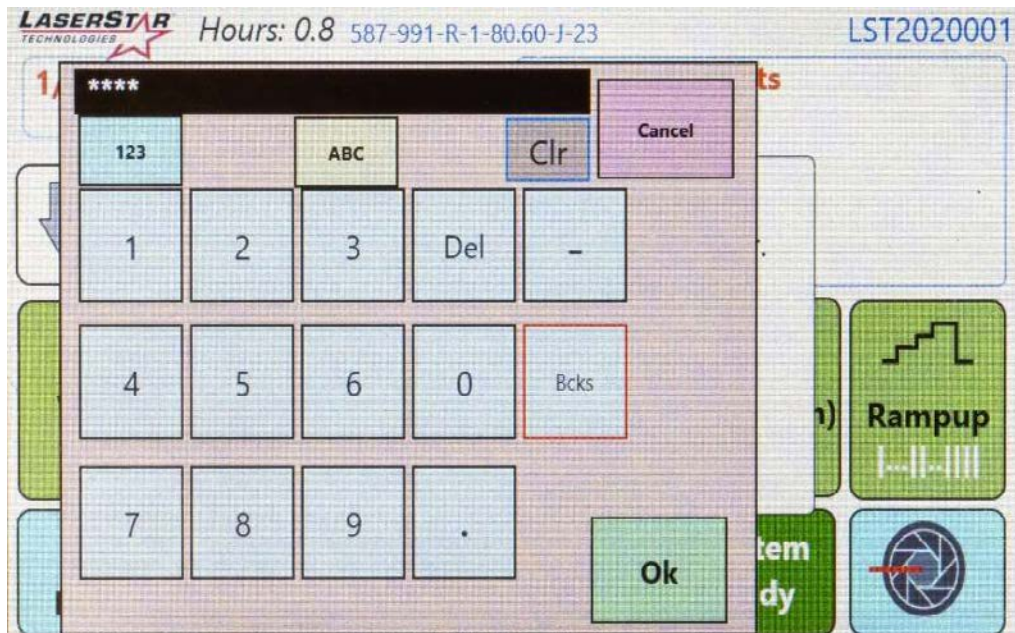

Figure 84
4. This will bring up the numerical keypad (Figure 84)
5. Type in the default PIN number (2013) and press the OK button (Figure 84)
5. Type in the default PIN number (2013) or the User PIN number and press the OK button (Figure 84)